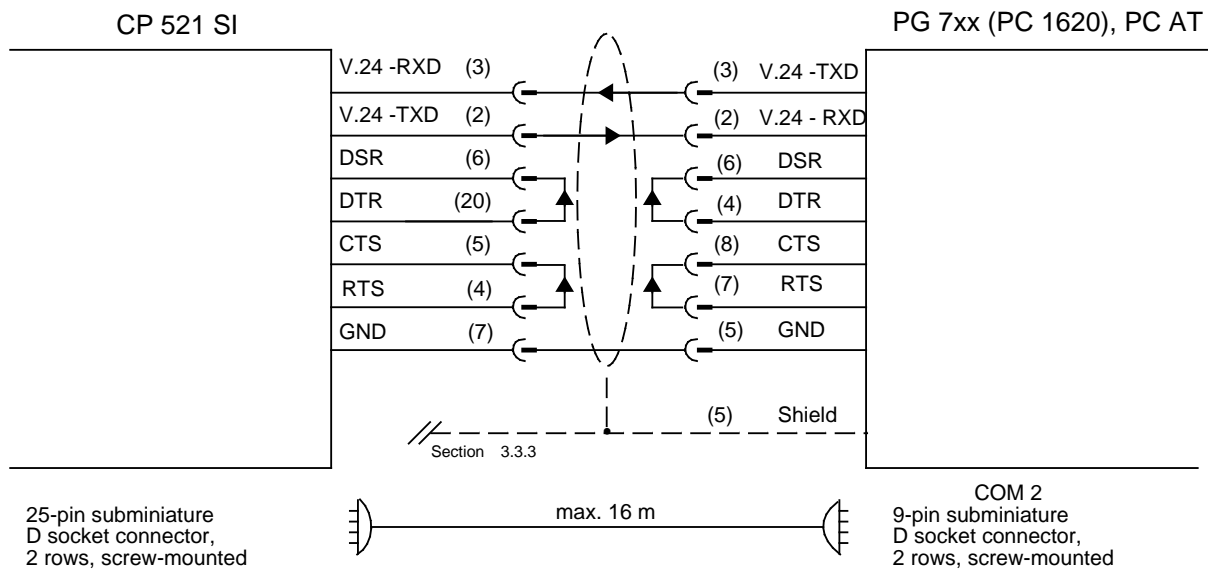

Figure D-7. Terminal Diagram CP 521 SI - COM 2 of a PG 7xx (PC 1620), PC AT (RS-232C/V.24 Interface)
- Connecting cable No. 9AB4173- ____ - ____ Cable for connecting the CP 521 SI to the **PG 7xx (PC 1620), PC AT, RS-232C (V.24)/COM 2** (Figure D-7)